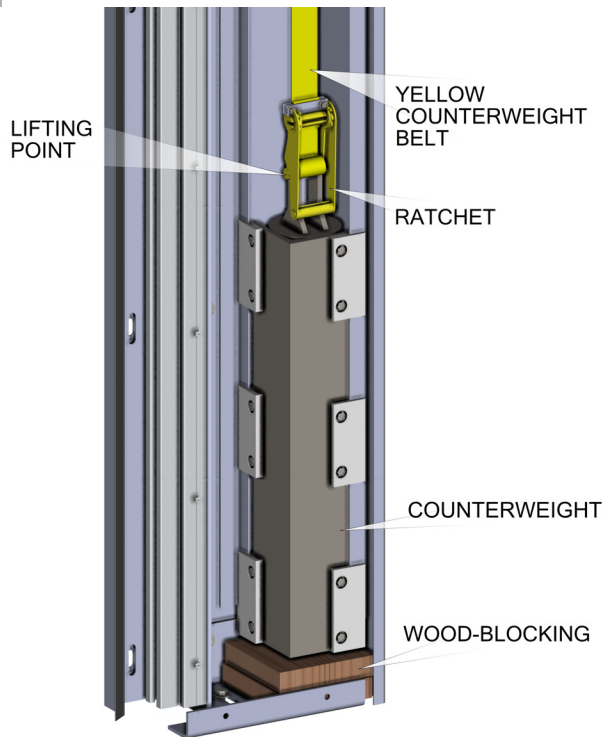

FIG 2.0
2. Place wood blocking under the counterweights and position the door at the full open position, as shown in **FIG 2.0**.